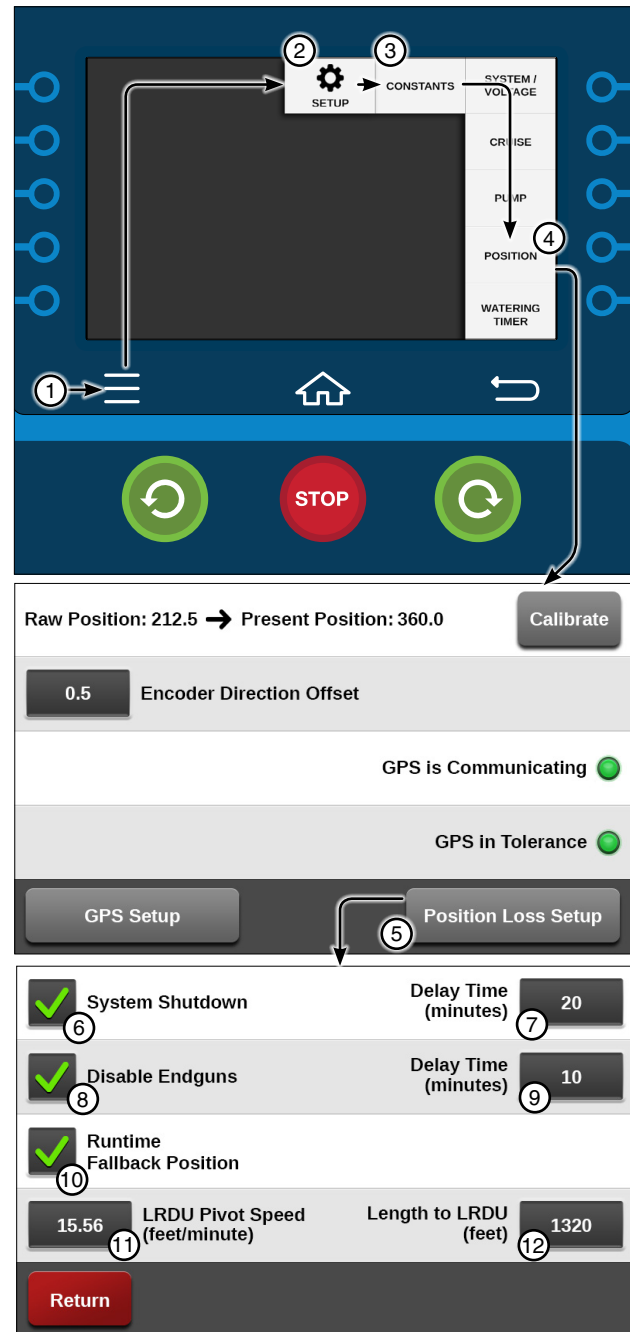

Figure 40-1 1. Menu 7. System Shutdown Delay
1. Check the **System Shutdown** checkbox. Refer to Figure 40-1.
1. Check the **Disable Endguns** checkbox. Refer to Figure 40-1.
1. Check the **Runtime Fallback Position** checkbox. Refer to Figure 40-1.